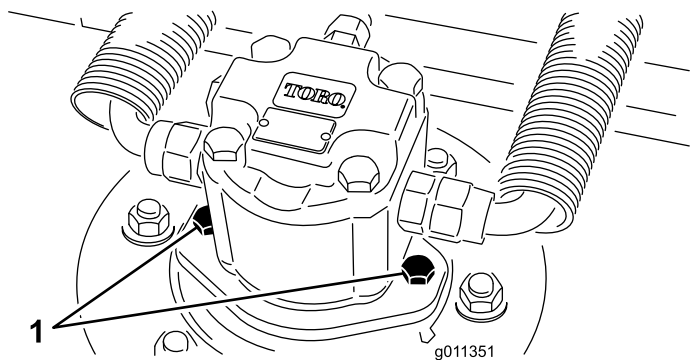

Figure 63
2. Disconnect and remove the hydraulic motor from the cutting unit (Figure 63). Cover the top of the spindle to prevent contamination.
4. Install the hydraulic motor to the deck (Figure 63). Make sure that the O-ring is in position and not damaged.